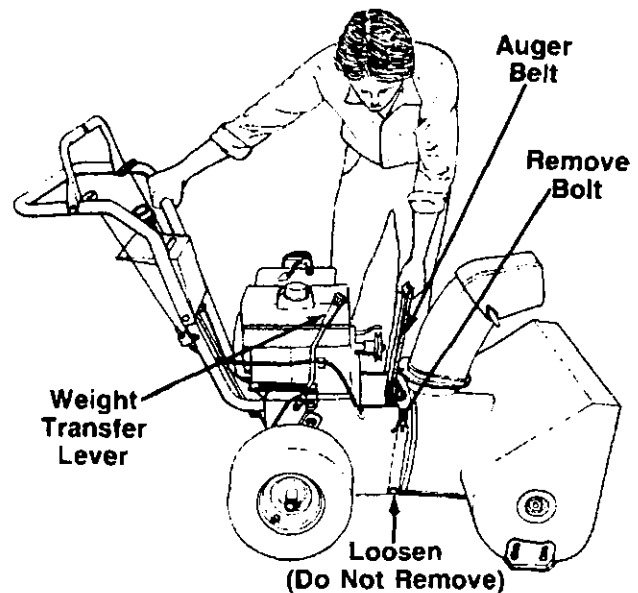

FIGURE 24.
- b. Using a 9/16" wrench, remove the top bolts which attach the auger housing to the frame assembly. Loosen (do not remove) the bottom bolts. See figure 24.